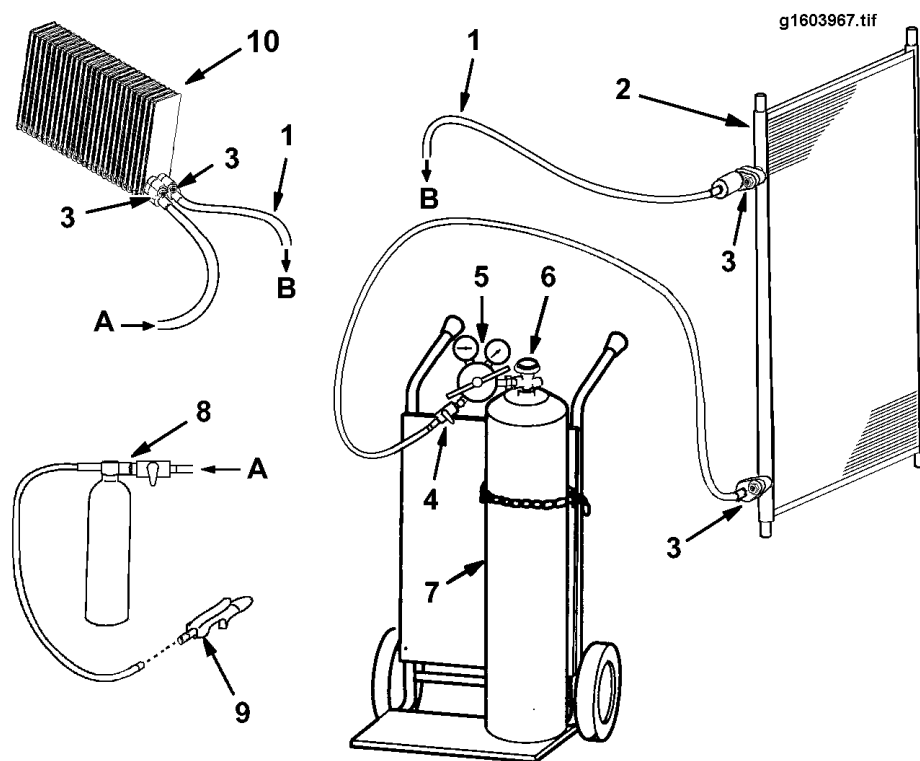

Figure 67 Typical Flushing and Purging Setup
Refer to Figure 67.
2. With the tank regulator (5, Figure 67) turned off (closed), open the main nitrogen tank valve (6), and using the input gauge on the regulator, verify that enough pressure is available to perform the flushing procedure.
3. Connect the input of the flush gun (8) to the output of the supply line from the nitrogen tank. Some form of shutoff valve should be installed at the input of the flush gun.
4. Using the correct fittings or block fitting adapters (3), connect the drain line (1) to the component to be flushed. Components are flushed in the opposite direction of normal refrigerant flow.
8. Set the supply line air regulator (5) to 75 psi.
9. Open the supply line valve (4) at the output of the tank regulator.
10. Slowly open the flush gun valve and allow the flushing solvent to flow through the system until the drain line is clear; then, close the flush gun valve. If a trigger type air gun (9) is being used on the flush gun output, actuate the trigger to release all pressure from the flush gun tank.
11. Close the supply line valve (4).